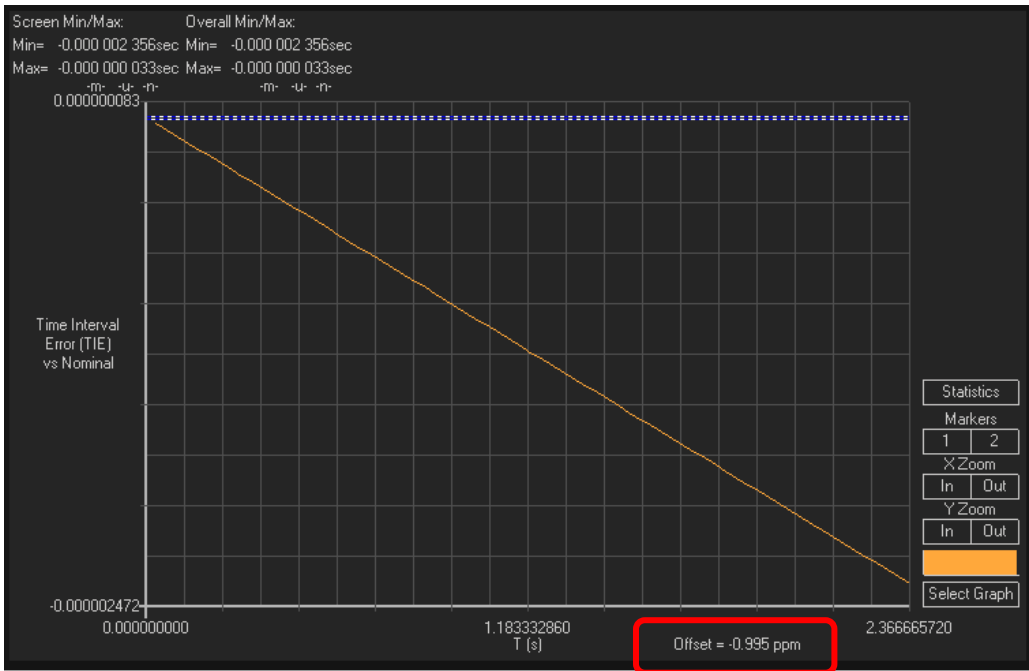

Figure 4: Frequency Accuracy Measurement
- Paragon-X will display the measured ppm frequency accuracy at the bottom of the graph as shown in Figure 4 below.
| EEC Option 2 (Constant Temp) | Locked to wander-free reference Constant temperature | MTIE & TDEV Pass/Fail masks shown in G.8262 Section 8.1.2 | MTIE – Table 4, Figure 3 TDEV – Table 5, Figure 4 |